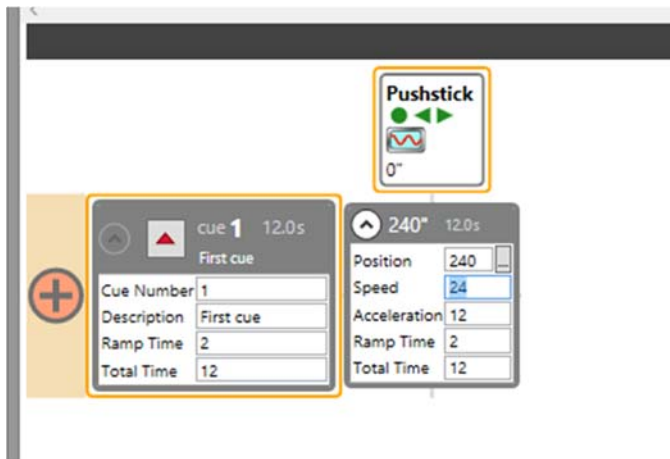

Figure 25
- A **Movement** panel will appear with parameters for adjusting the speed and position of the motor that is moving the wagon. Enter "240" in the **Position** field to adjust the position of the motor in *Cue 1* (Figure 25).